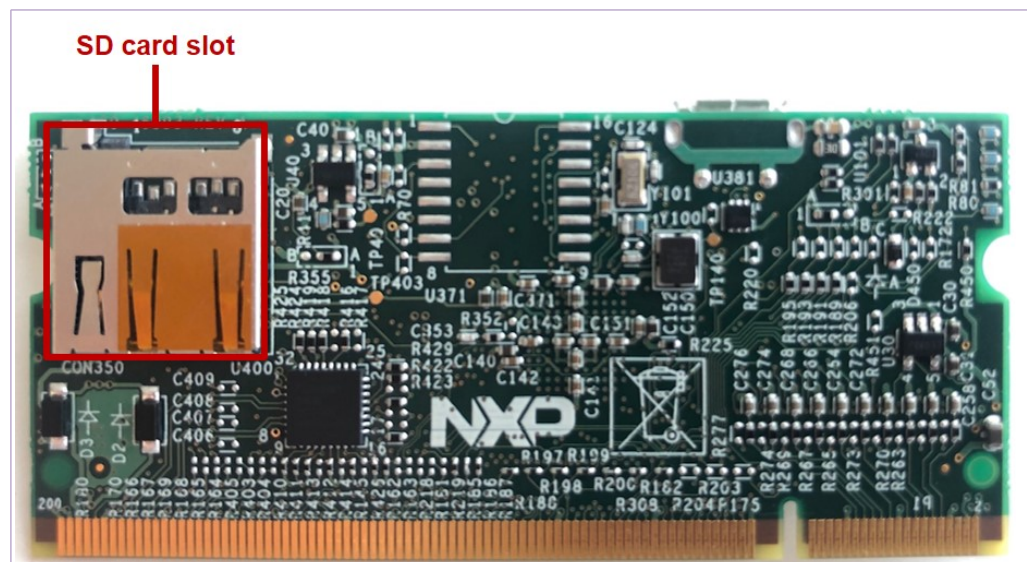

Figure 11. SD card slot on PCB
1. An SD card slot in the back side of the PCB as shown in Figure 11: